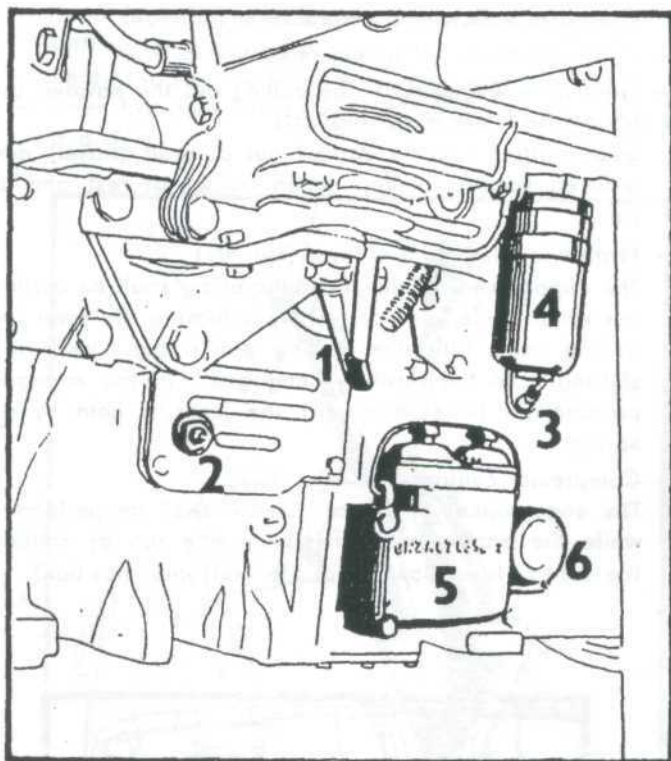

Fig. 9
- Hydraulic pump control lever (Fig. 9/1)